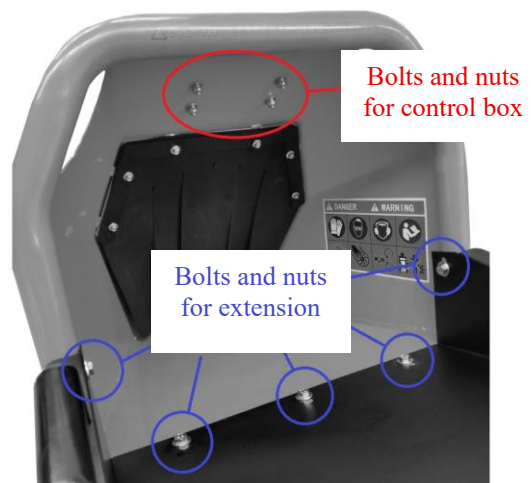

Fig. 5
- Mount the hopper extension (27) on the hopper (18), then secure it with the supplied bolts and nuts, as illustrated in Fig. 5.